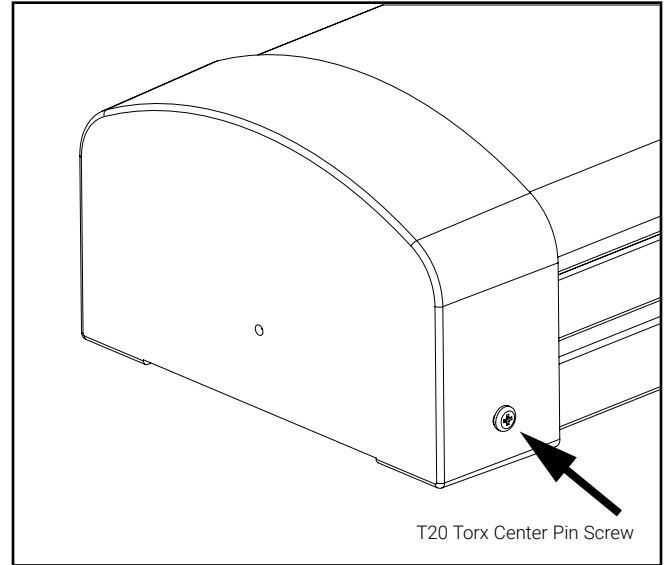

Figure 14.
2. There are (Qty 2) T20 Torx Center Pin screws on the end cap sides that need to be removed (Figure 14).